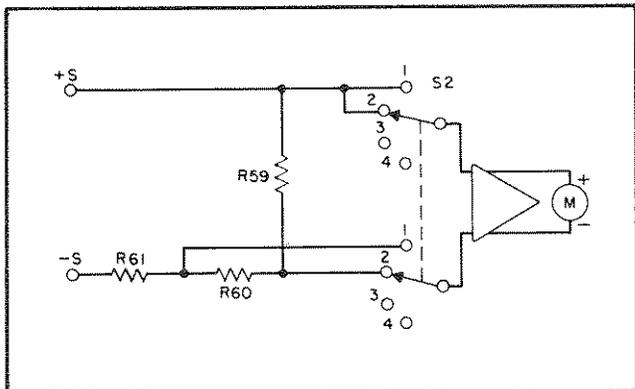

Figure 4-3. Voltmeter Connections, Simplified Schematic
4-42 Figures 4-3 and 4-4 show the meter connections when the METER section of S2 is in the higher voltage and current range positions, respectively. For the sake of simplicity, some of the actual circuit components are not shown on these drawings. With the METER switch in the higher voltage range, position 2, the voltage drop across R59 is the input to the meter amplifier and the meter indicates the output voltage across the +S and -S terminals. For low output voltages, S2 can be switched to the low voltage position (1) resulting in the application of a larger percentage of the output voltage (drop across R59 and R60) to the meter amplifier.